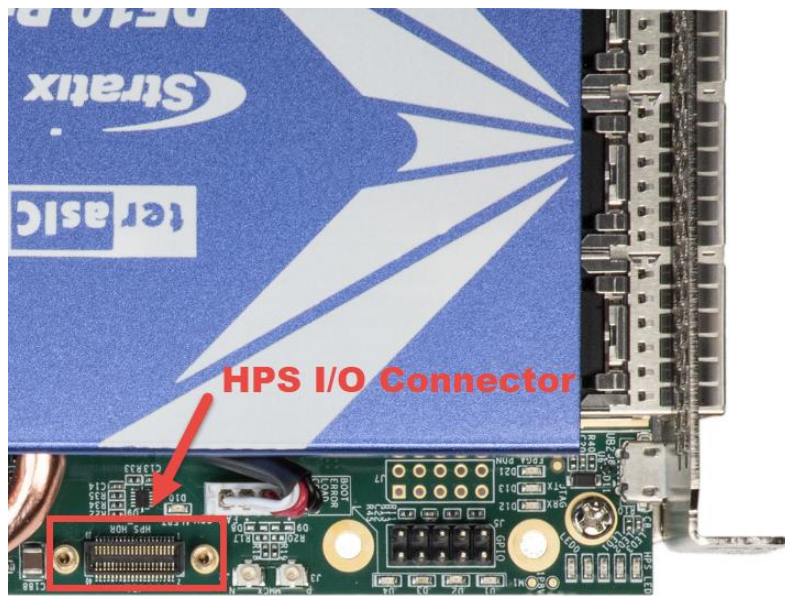

Figure 1-3 Connect the HPS daughter card to the DE10-Pro SX
- Connect the HPS daughter card to the 40-pin I/O connector (see **Figure 1-3**) of the DE10-Pro SX.